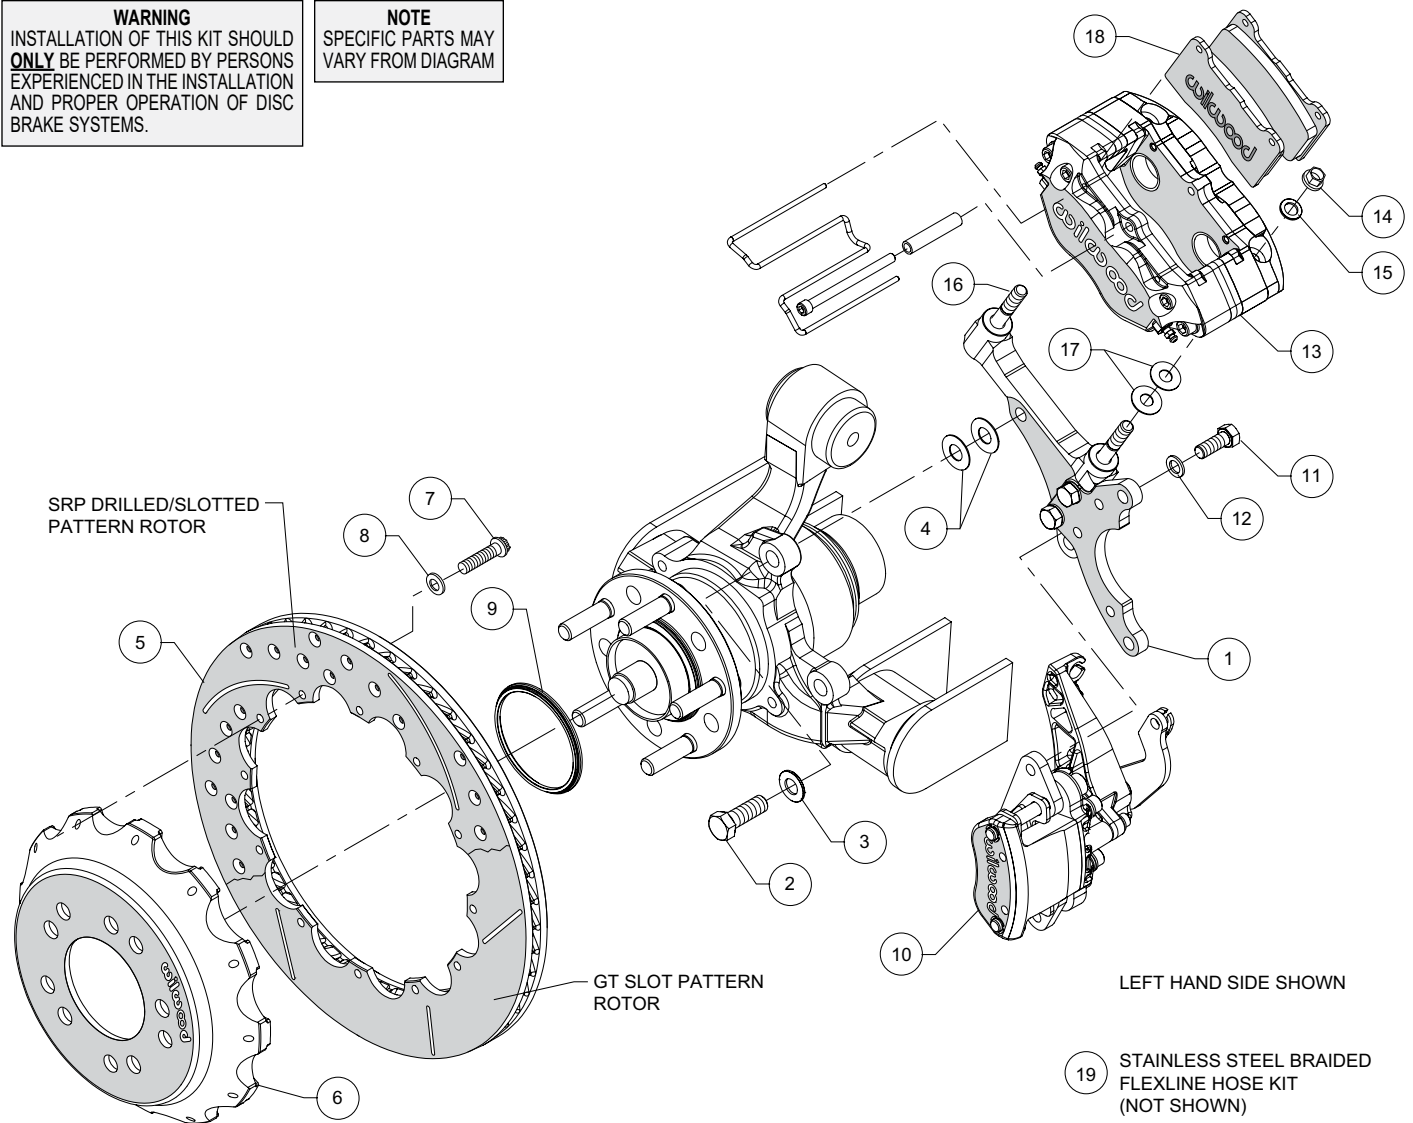
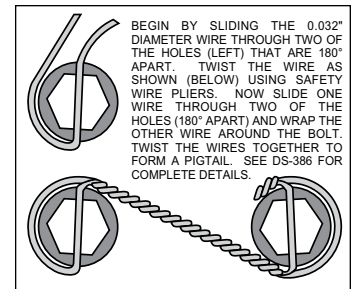

Figure 1. Typical Installation Configuration
Figure 3. Safety Wire Diagram
NOTE: Numbers in parenthesis refer to the parts list and Figure 1 on the preceding pages.
- The caliper mount bracket (1) should initially be installed with clean, dry threads on the mounting bolts. Orient the bracket as shown in Figure 1, and Photo 1, and install using bolts (2) and washers (3). Initially place two .033" thick shims (4) on each bolt between the bracket and upright, Figure 1. Temporarily tighten the mounting bolts. **NOTE:** *The bracket must fit squarely against the mount bosses on the upright.* Inspect for interference from casting irregularities, machining ridges, burrs, etc. Later, after the caliper alignment has been checked, the mount bolts will be secured using red *Loctite*® 271.
- Orient the rotor (5) and the hat (6) as shown in Figure 1 and Photo 2. Attach rotor to hat using bolts (7) and washers (8). Apply red *Loctite*® 271 to the bolt threads and torque to 155 in-lb using a criss-cross pattern. For an added measure of security, the bolts may be safety wired using standard 0.032 inch diameter stainless steel safety wire as shown in Figure 3. Please refer to Wilwood's data sheet DS-386 (available at www.wilwood.com/Pdf/DataSheets/ds386.pdf) for complete safety wire installation instructions.
- Slide the rotor registration adapter (9) onto the axle register on the hub assembly with the smaller O.D. facing outward, Photo 3. Slide the hat/rotor assembly (5/6) onto the axle hub. **NOTE:** *The hat must fit flush against the axle hub flange or excessive rotor run out may result.* Install three lug nuts (finger tight) to keep the hat/rotor assembly in place while continuing with the installation, Photo 4.
- Initially place two .035" thick shims (17) on each stud (16) as shown in Figure 1 and Photo 5. Mount the caliper (13) onto the bracket (1) using lock nuts (14) and washers (15), Figure 1. Temporarily tighten the lock nuts and view the rotor through the top opening of the caliper. The rotor should be centered in the caliper, Photo 6. If not, adjust by adding or subtracting shims (4) between the bracket and the mounting bosses. Always use the same amount of shims on each of the two mounting bolts. Once the caliper alignment is correct, remove the bracket mounting bolts one at a time, apply red *Loctite*® 271 to the threads, and torque to 60 ft-lb.
- Insert the brake pads (18) into the caliper with the friction material facing the rotor (5), as shown in Figure 1 and Photo 7. Check that the top of the brake pad is flush with the outside diameter of the rotor, Photo 8. If not, adjust by adding or subtracting shims (17) between the caliper and the bracket. After the caliper pad height is set, torque the caliper lock nuts (14) to 30 ft-lb. Secure the pads in place using the pad clip retainer as well as the center bridge pad retainer tube, bolt, and locknut, Photo 9. The locknut should be snug without play in the bolt or tube. Be cautious not to over tighten.
- Mount the parking brake caliper (10) onto the caliper mounting bracket (1) using bolts (11) and washers (12), as shown in Figure 1 and Photo 10. Apply red *Loctite*® 271 to bolt threads, and torque to 30 ft-lb.
- NOTE:** OEM rubber brake hoses generally cannot be adapted to Wilwood calipers. The caliper inlet fitting is a 1/8-27 NPT (use PTFE tape on pipe threads of adapter fitting for proper sealing to caliper). Install Wilwood's stainless steel braided flexline hose kit (19), P/N 220-15021 included with this kit. **Carefully route hoses to prevent contact with moving suspension, brake or wheel components.** **NOTE:** Be sure to attach the bracket for the fitting to the Factory Five Roadster chassis in a location which will allow full suspension travel and will not cause the line to have tension or be pinched, Photo 11. **NOTE:** Wilwood hose kits are designed for use in many different vehicle applications and it is the installer's responsibility to properly route and ensure adequate clearance and retention for brake hose components.